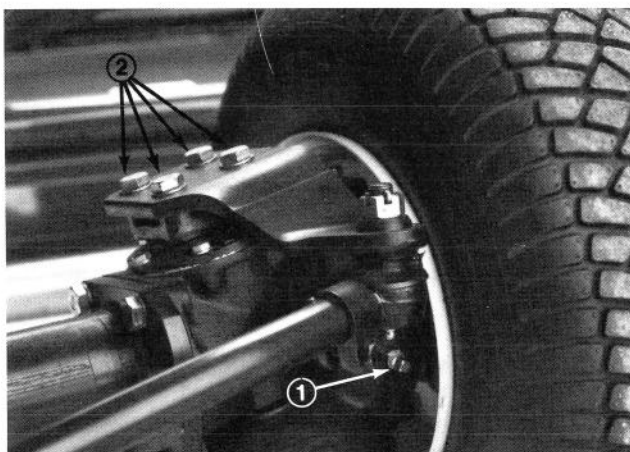

Figure 22
(Fig. 22 & 23) (Model 03501 only)
2. Remove a check plug from each end of axle and make sure lubricant is up to bottom of hole. If level is low, remove one of the mounting bolts above each end plug and add enough lubricant to bring the level up to the bottom of the hole (Fig. 22).
1. Check Plugs (2) 2. Mounting Bolts
3. Remove plug in center of axle and check level. If level is low, add enough lubricant to bring the level up to the bottom of the hole (Fig. 22).